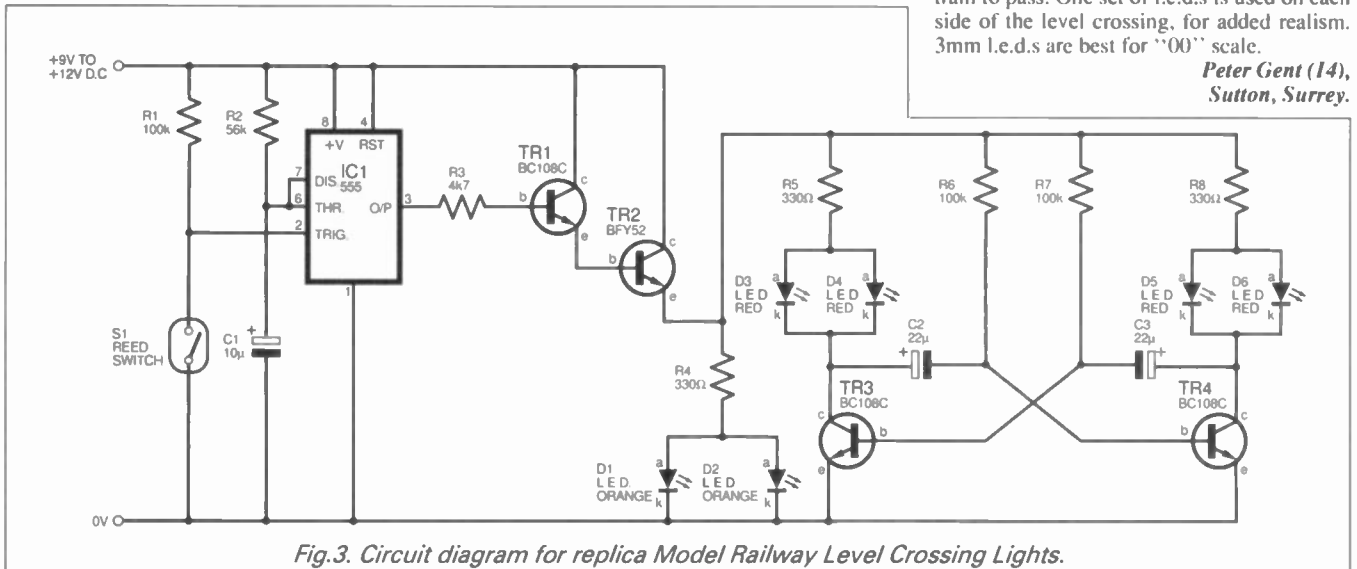

Fig.3. Circuit diagram for replica Model Railway Level Crossing Lights.
**T**HE small circuit of Fig. 3 is for use on model railway layouts and approximates the flashing light signals used at level crossings. It is operated by a reed switch (S1) embedded in the track, which is closed by a magnet on the underside of a passing train. This triggers the monostable timer IC1, which powers a Darlington transistor pair TR1 and TR2.